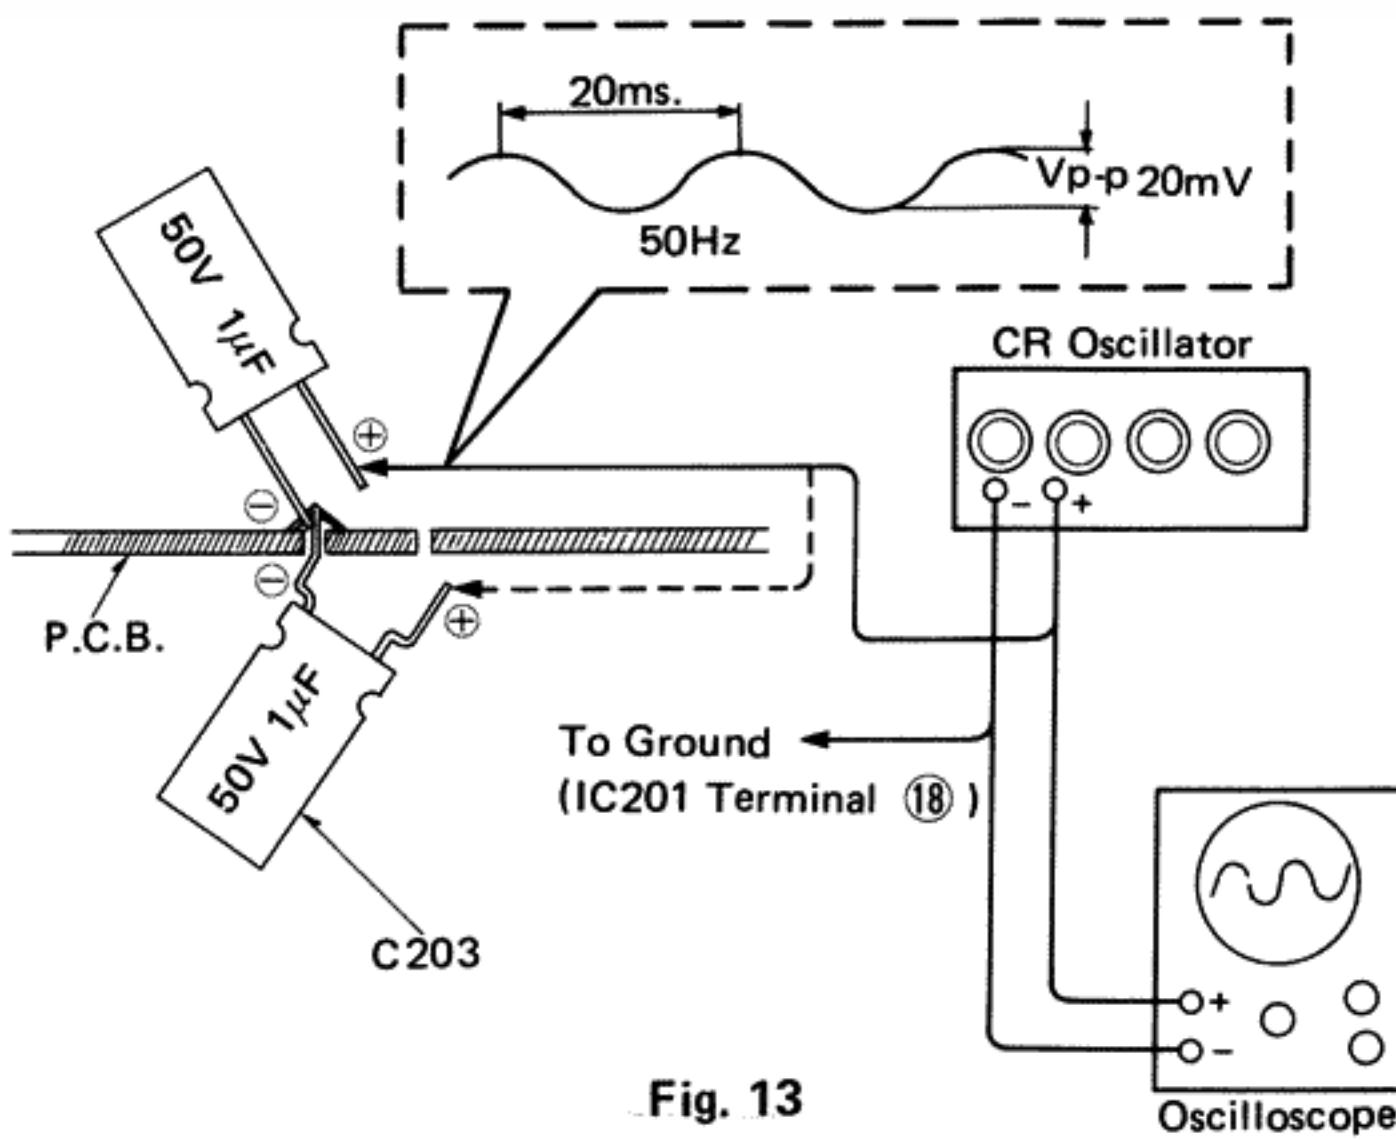

Fig. 13
Or, connect the oscillator to the positive + side of C203. (See Fig. 13)
2. Checking the output of the oscillator on the oscilloscope, adjust so that the waveform becomes as shown in Fig. 13